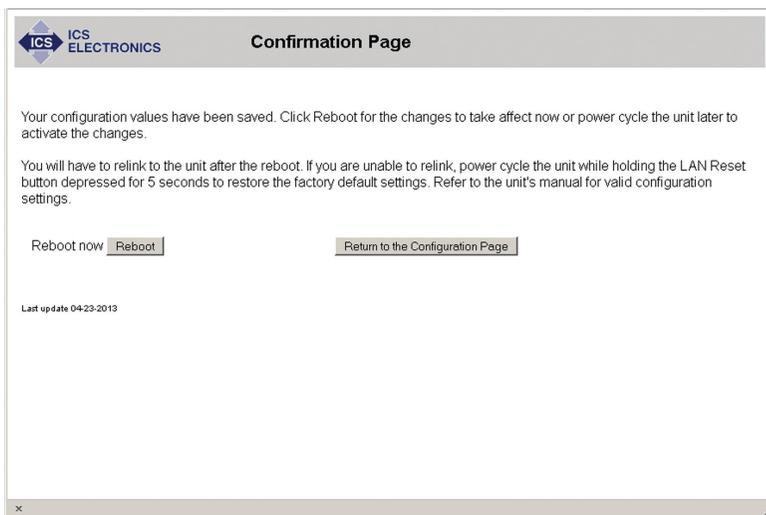

Figure 2-5 Confirmation Page
5. Enter the new settings as desired. If you select DHCP with AutoIP Fallback for the TCP/IP Mode, the page blanks the IP, Net and Gateway addresses as they will be supplied by your DHCP server. Enter the serial settings in the lower half of the page. Only enter the Slave Device Address and enable the Substitute Slave Address if you are doing Modbus TCP/IP operation and want the 9099 to substitute a different slave device address for the one in the program you will be running. Check the entered values carefully as the unit’s webserver does minimal error checking. Press the ‘Update Flash’ button when done. A Confirmation Page similar to the one shown in Figure 2-5 will appear in your browser.